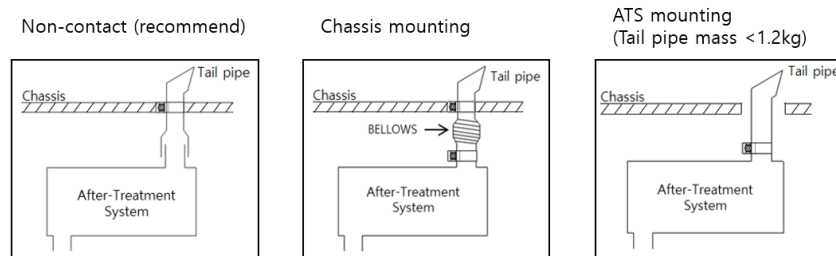

Figure 7-5. Types of tail pipe
- Machine (or Vehicle) side should satisfy the three concepts described in Figure 7-5. But, if Machine (or Vehicle) side is not able to follow one of the three concepts of Figure 7-5, they MUST discuss with a proper HDI engineer whether an alternative Machine (or Vehicle) tail pipe layout is possible or not. As a result of this discussion, additional validations such as machine durability test, RLDA vibration measurement, stress measurement, etc. could be requested to Machines (or Vehicles) side to verify the durability and reliability of HDI's ATS system.